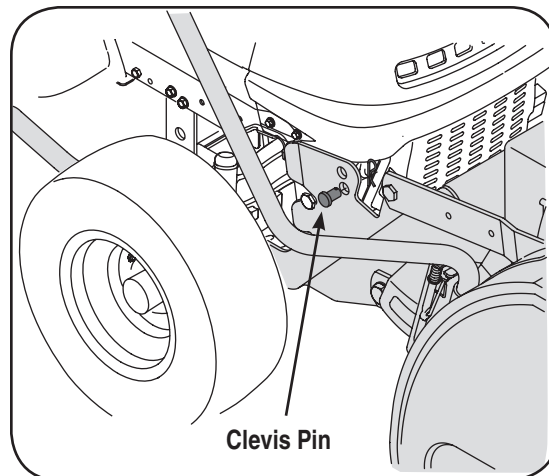

Figure 6-8
4. Maneuver the auger housing until the mounting holes line up. Insert the clevis pins from your hardware pack and secure with a click pins. See Figure 6-8.